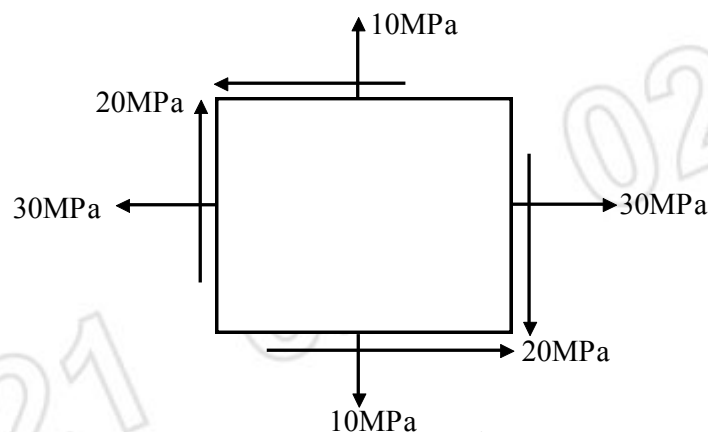

Fig.5
12. For the stressed element as shown in fig. 5 find the following. 14